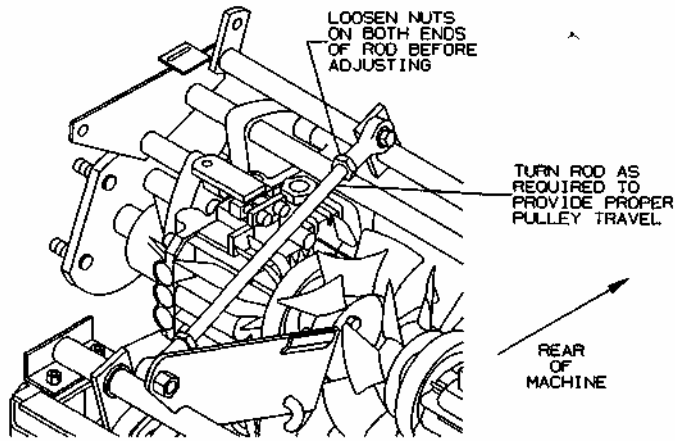

Figure 1
1. The idler pulley travel required to engage the belt drive should be held to approximately 1 3/4". To adjust this distance, loosen the nuts on both ends of the rod extending between the idler plate and the brake shaft. Turn the rod as required to achieve desired pulley travel of approximately 1 3/4" when the brake handle is released. Tighten nuts firmly against the ball joint rod ends. See Figure 1 .